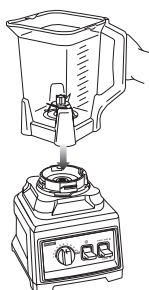

Fig. 1
- 3 Align and lower the pitcher onto the motor base. (Fig. 1) Handle should be aligned slightly to the right of the "LOCK" symbol on the motor base.